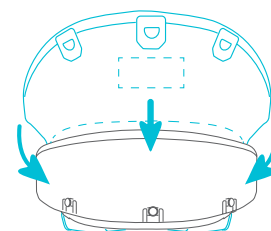

Fig. 13b
- To reattach the fabric, insert the warning label side towards the backrest of the seat base. Fold the fabric over and insert the rear center plate into the tab. Continue to connect all plates around the seat base tabs. All plates and tabs must be secured before use (Fig. 13b).